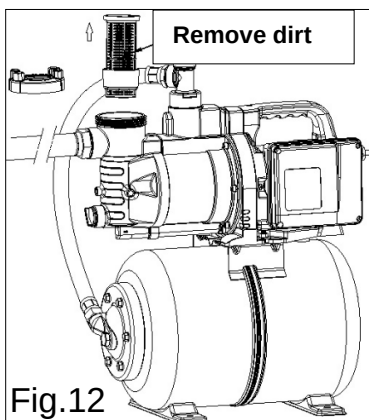

Fig.12
- (2) Carefully remove the filter cartridge and wash it with water or clean it with a soft brush (Fig.12).